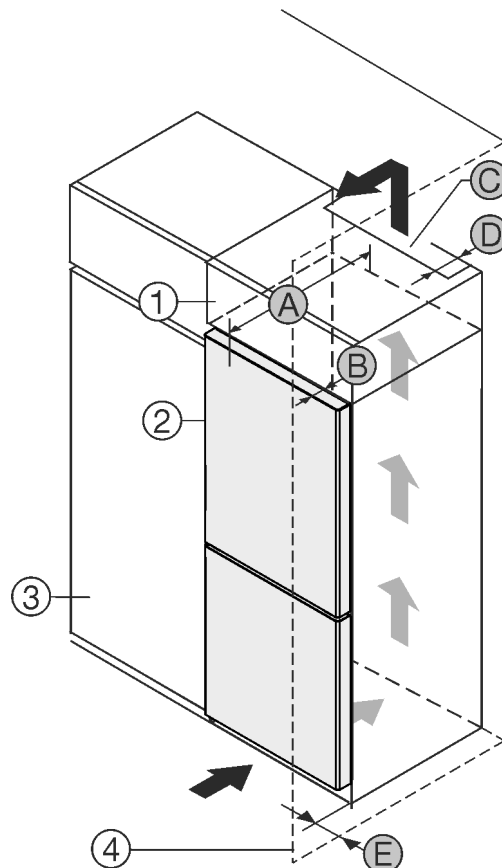

Fig. 1
- (3) Kitchen cabinet * (D) Distance to the back of the appliance *
- (4) Wall * (E) Distance to the side of the appliance *
- (A) Appliance depth *
You can place the appliance directly beside the kitchen cabinet *Fig. 1 (3)*.*
There must be a ventilation shaft at the depth *Fig. 1 (D)* of the back of the top cupboard over the entire width of the top cupboard.*
The ventilation cross-section *Fig. 1 (C)* must be maintained under the ceiling.*
If the appliance is set up with the hinges next to a wall *Fig. 1 (4)*, the distance between the appliance and the wall must be at least 13 mm.*
If the appliance is set up with the hinges next to a wall *Fig. 1 (4)*, the distance between the appliance and the wall must be at least 20 mm.*
In order to be able to fully open the door, the appliance must protrude by the depth of the door *Fig. 1 (B)* from the front of the kitchen cabinet. The appliance may protrude further depending on the depth of the kitchen cabinets *Fig. 1 (3)* and whether wall spacers are used.*